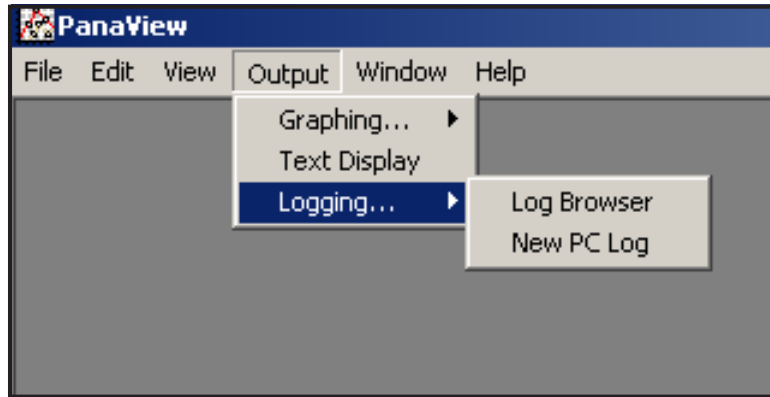

Figure 24: The *Log Browser* in the *Logging* Option
1. From PanaView, click on the *Logging* option in the *Output* menu. Then click on the *Log Browser* option, as shown in Figure 24.